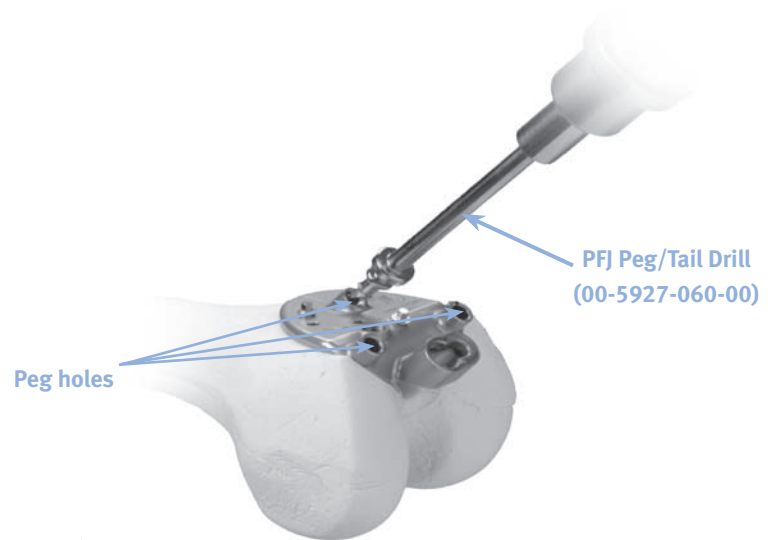

Fig. 45
- Drill the anterior, medial, and lateral peg holes (Fig. 45).